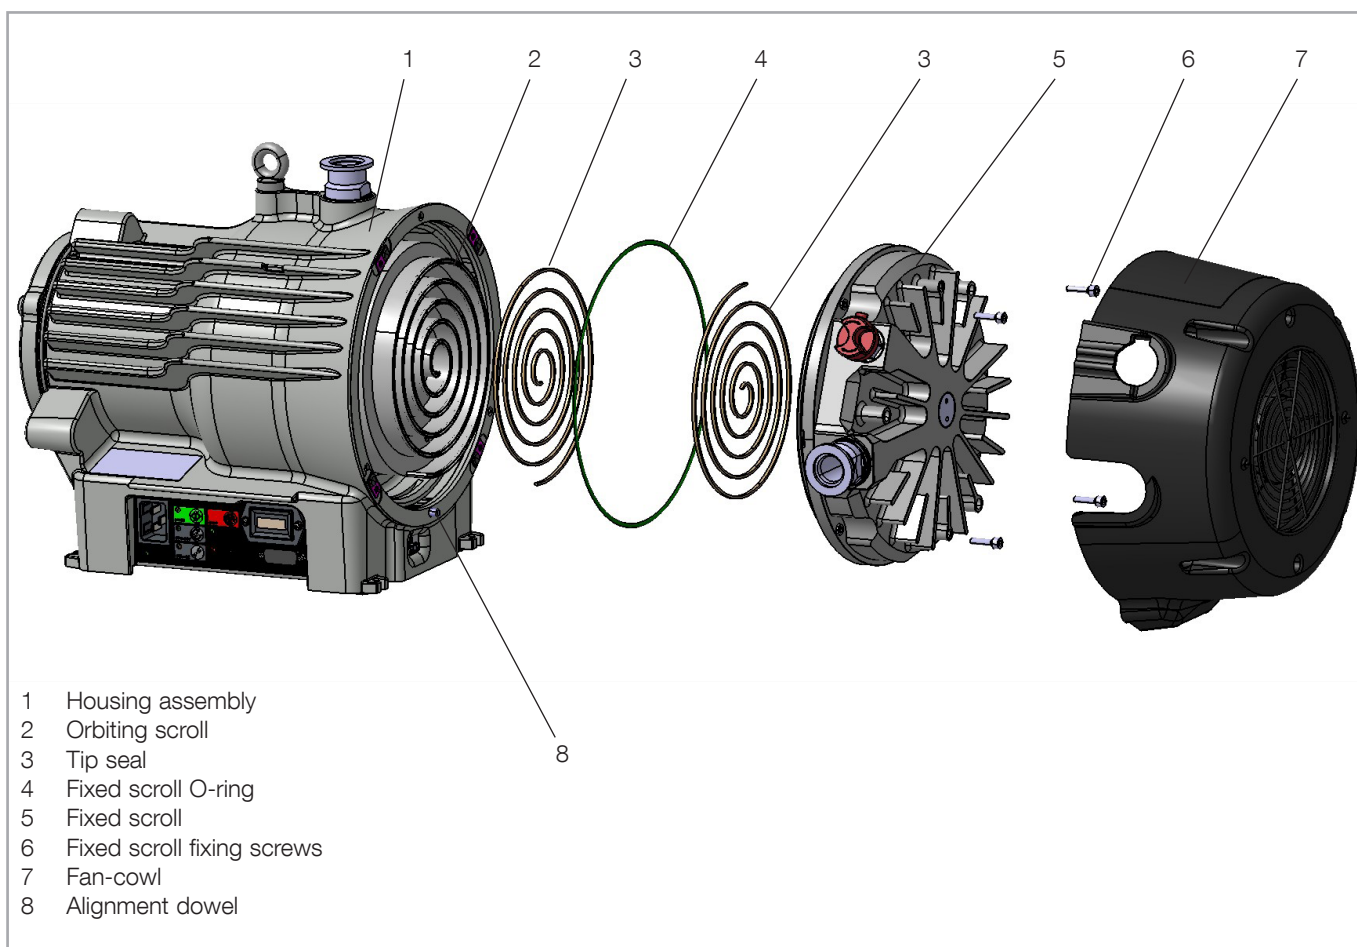

Figure 5 - Replacing the tip seals
6. Starting from one end, remove the tip seal from the fixed scroll. Repeat this operation for the orbiting scroll (Figure 5, item 3). Remove the fixed scroll O-ring (Figure 5, item 4). Dispose of all used items that have been removed following this operation.
9. Fit the new O-ring (Figure 5, item 4) onto the fixed scroll (Figure 5, item 5). The O-ring may be moistened with water (H₂O) only, to aid assembly.
10. Assemble the fixed scroll assembly up to the housing assembly (figure 5, item 1). Be careful and do not damage the O-ring. Check that the alignment dowel (Figure 5, item 8) in the housing assembly lines up with the hole in the fixed scroll. Ensure that the fixed scroll is fitted squarely onto the housing assembly.
11. Tighten the fastening screws (Figure 5, item 6) in small increments using a 4 mm Allen key and pull-up evenly the fixed scroll assembly onto the housing assembly. Torque each screw to 9 Nm. Do not start by assembling one side first.
Note: Do not to damage or trap the O-ring (figure 5, item 4).